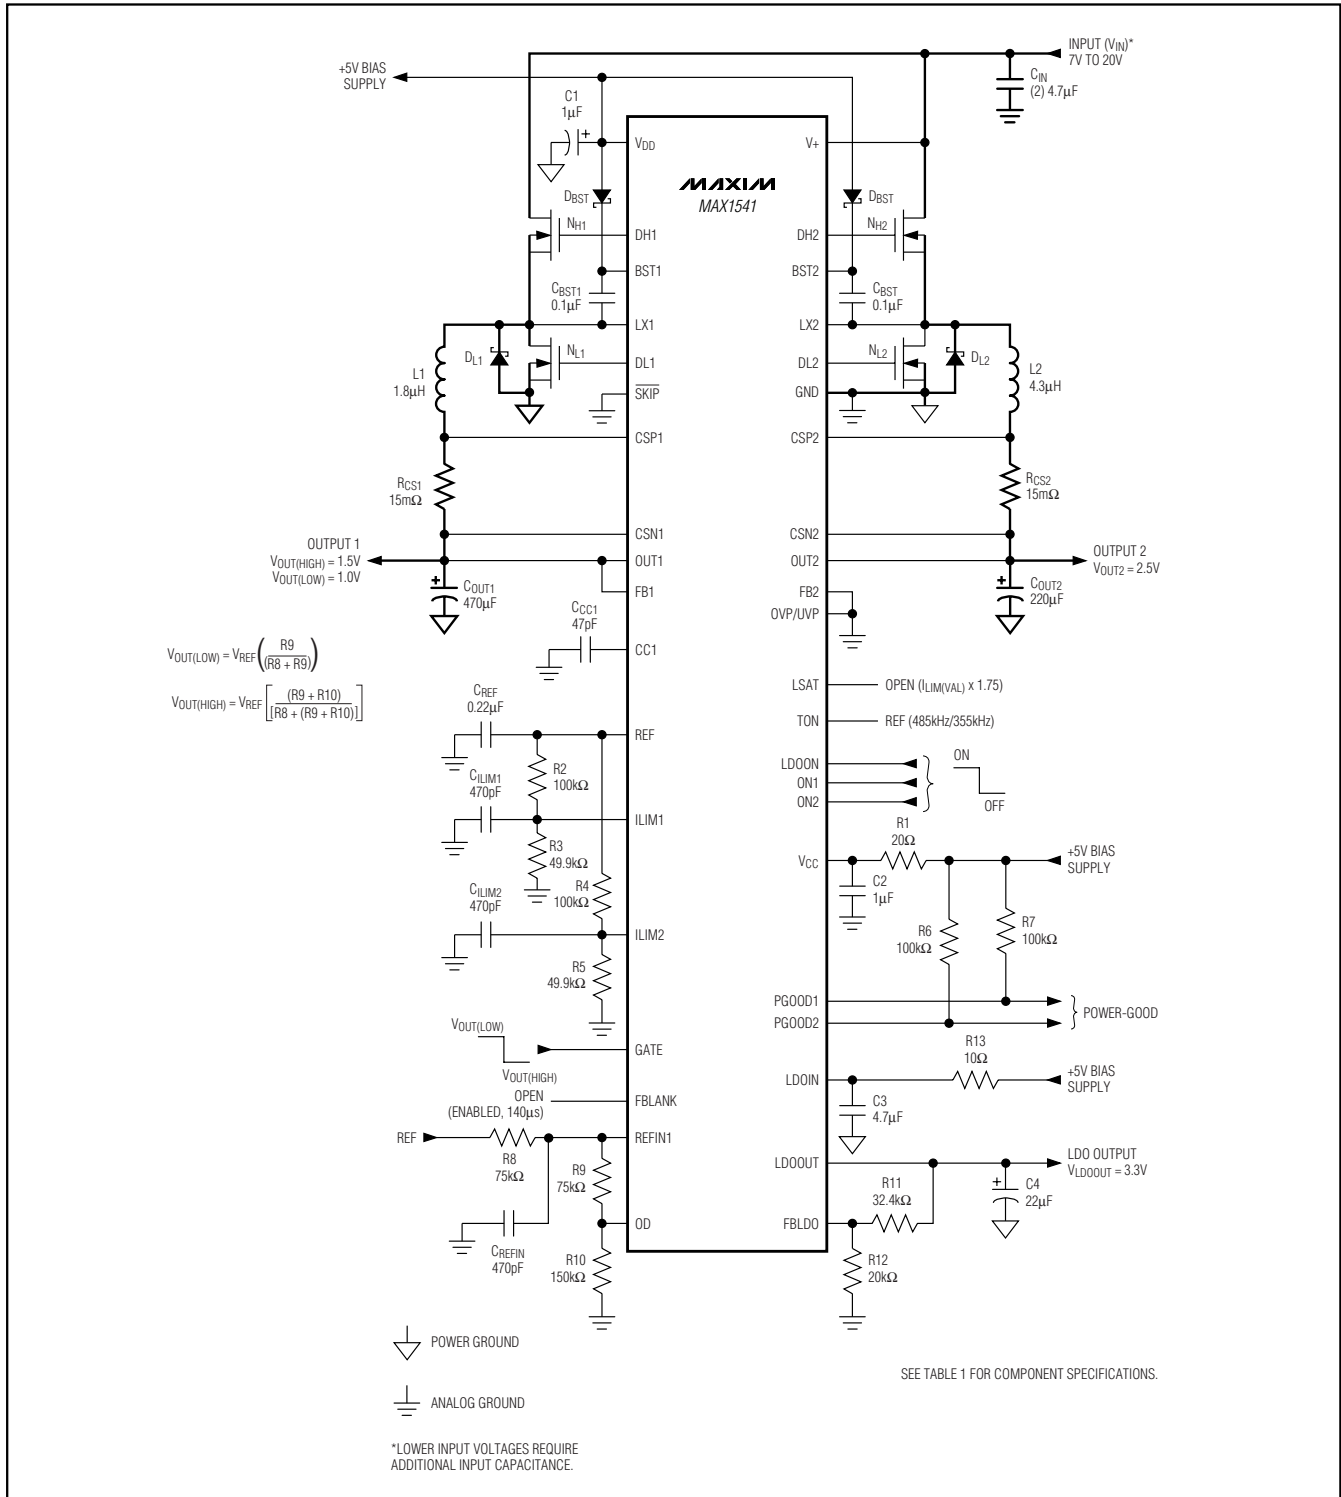

Figure 12. MAX1541 Standard Application Circuit
The MAX1541 regulates FB1 to the voltage set at REF_{IN1}. By changing the voltage at REF_{IN1}, the MAX1541 can be used in applications that require dynamic output-voltage changes between two set points. Figure 12 shows a dynamically adjustable resistive voltage-divider network at REF_{IN1}. Using the GATE signal and open-drain output (OD), a resistor can be switched in and out of the REF_{IN1} resistor-divider, changing the voltage at REF_{IN1}. A logic high on GATE turns on the internal N-channel MOSFET, forcing OD to a low-impedance state. A logic low on GATE disables the N-channel MOSFET, so OD is high impedance. The two output voltages (FB1 = OUT1) are determined by the following equations:
voltage during dynamic transitions. With the additional capacitance, the REFIN1 voltage slews between the two set points with a time constant given by $R_{EQ} \times C_{REFIN1}$, where R_{EQ} is the equivalent parallel resistance seen by the slew capacitor. Looking at Figure 12, the time constant for a positive REFIN1 voltage transition is:
For the MAX1541, the linear regulator supports Dual Mode operation to allow the selection of a 5V output voltage without requiring external components (Figure 1). Connect FBLDO to GND for a fixed 5.0V output. The linear regulator's output voltage can be adjusted from 1.25V to 5.5V using a resistive voltage-divider (Figure 12). The MAX1541 regulates FBLDO to a 1.25V feedback voltage. The adjusted output voltage is: